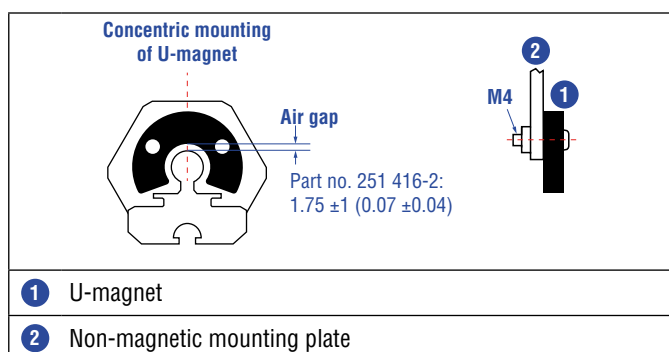
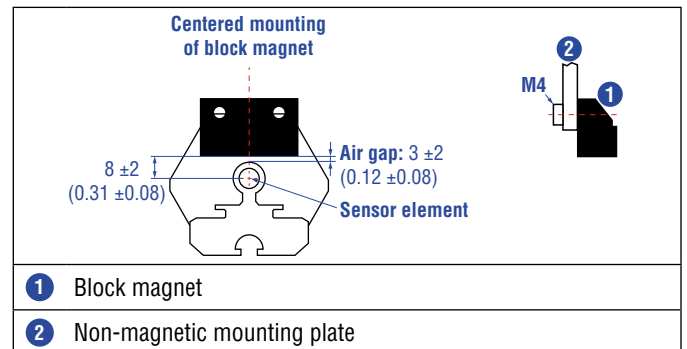

Fig. 13: Mounting of U-magnet (part no. 251 416-2)
Fig. 14: Mounting of block magnet (part no. 403 448)
- Mount block magnets centrically over the sensor rod or the sensor profile. The maximum permissible air gap must not be exceeded (Fig. 13/ Fig. 14).